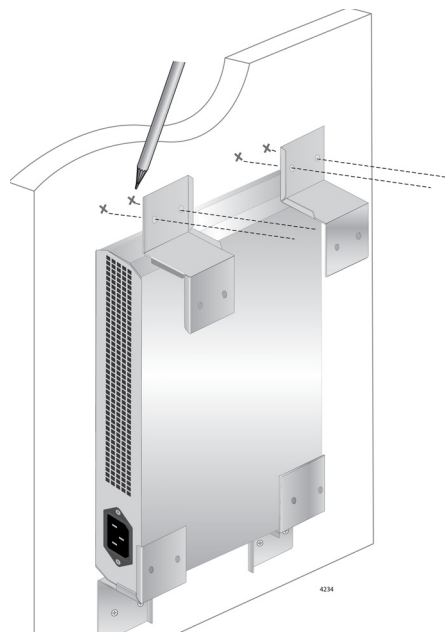

Figure 50. Marking the Screw Hole Locations
9. Place the other two brackets on the top of the switch and mark the screw hole locations with a pencil as shown in Figure 50.